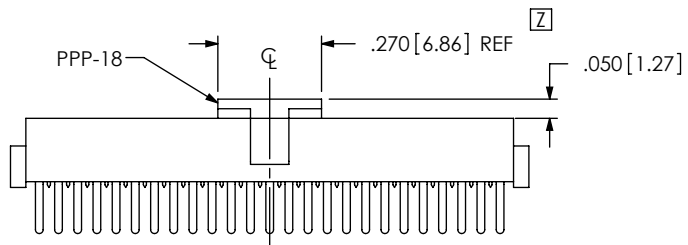

FIG 2
- OPTION 2: -P: PICK & PLACE PAD (USE PPP-18) (SEE FIG 2)